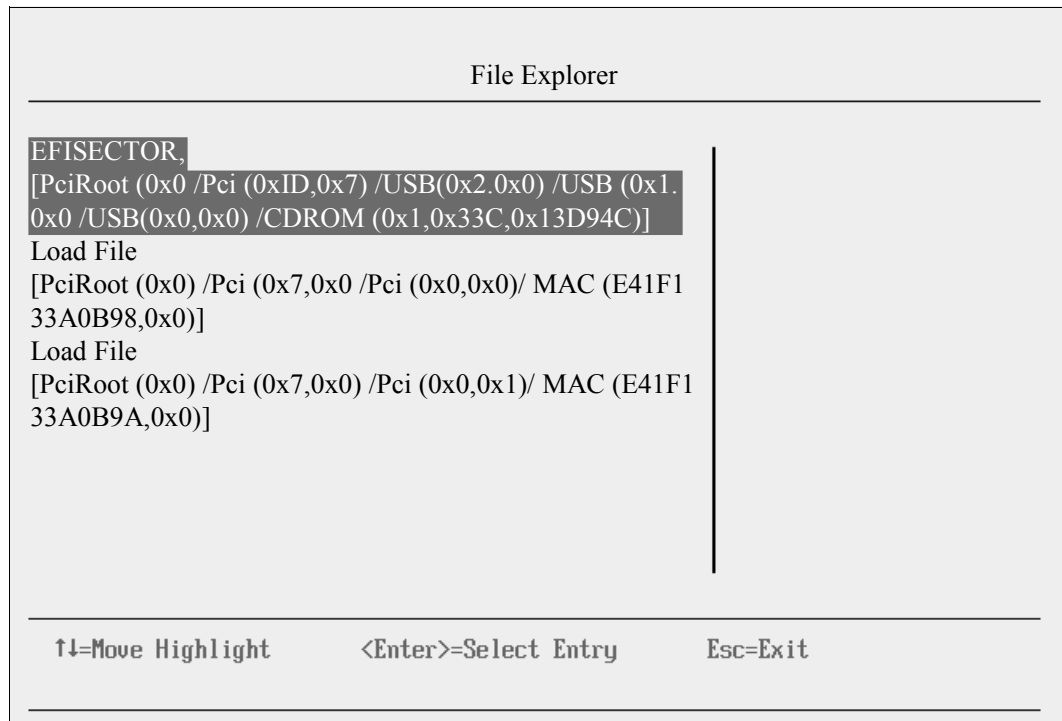

Figure 9-161 File Explorer panel
4. In the File Explorer panel (Figure 9-161 on page 381), select **EFISECTOR** and the associated information.